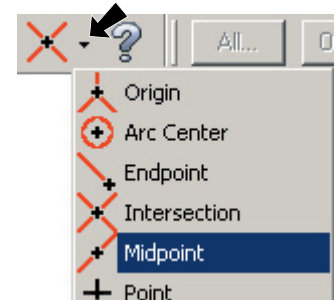

Fig. 32
Step 3. Click the down arrow in the Auto Cursor ribbon bar and click Midpoint , **Fig. 32**.